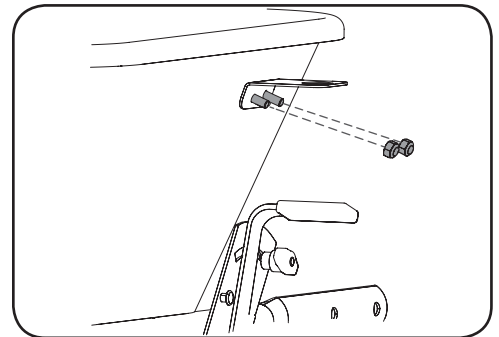

Figure 2-16
- Install the motor ON/OFF switch bracket onto the right side of the hopper using two hex screws, washers and locknuts. Thread the hex screws through the washers, then through the hopper. Secure the switch bracket to the outside of the hopper with the locknuts. See Figure 2-16.